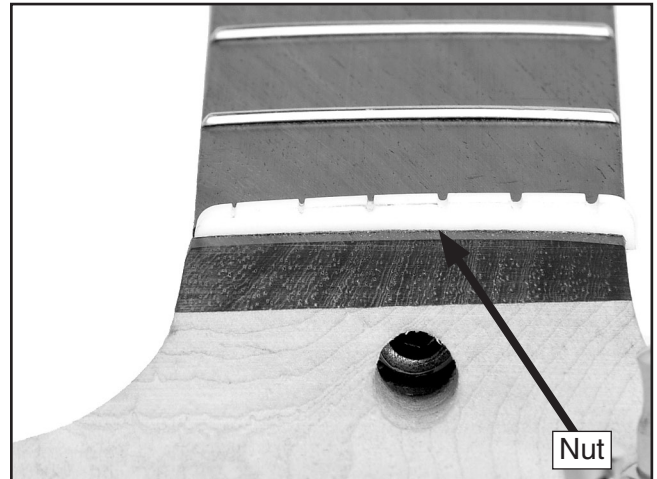

Figure 25. Nut installed.
3. Sand one side of the nut on a piece of sandpaper by hand until it fits snugly into the nut slot as shown in **Figure 25**. Make sure the large slots on the nut face the top of the neck and the small slots face the bottom of the neck.